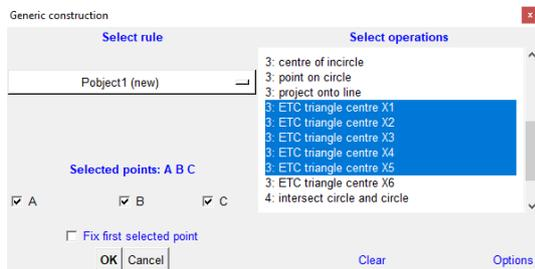

Figure 46
3. Click on the point P. A point rule form appears (Figure 46). Since we are creating a new rule we choose the name *Pobject1 (new)* and immediately declare the operations in the rule, i.e., ETC triangle centres 1-5. Note the “3:” in front of the operation names for ETC centres – 3 means that the operation takes 3 points as arguments. We also checkmark the points A, B, C